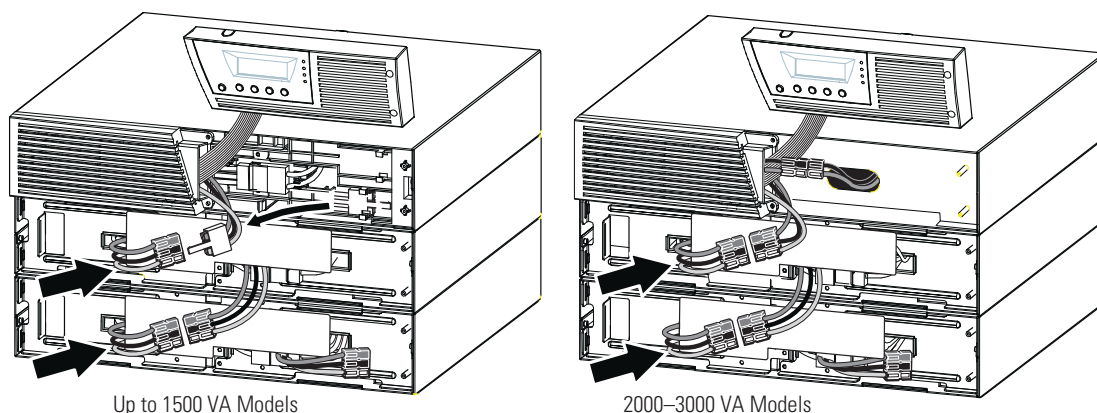

Figure 13. Typical EBM Installation
- Plug the EBM cable(s) into the battery connector(s) as shown in Figure 13. Up to four EBMs may be connected to the UPS.